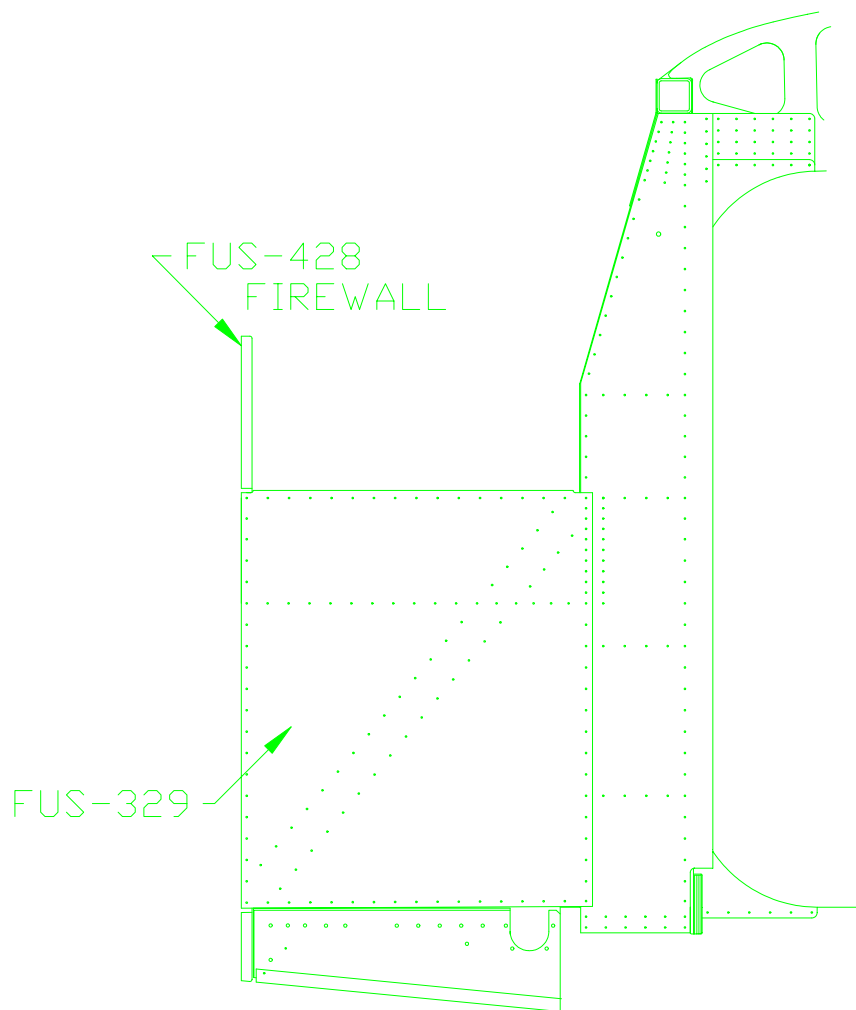

FIGURE 17
24) Cleco the firewall to the two FUS-329 front side skins. Through the FUS-329's, back drill the firewall side flanges. Cleco securely. Figure 17.